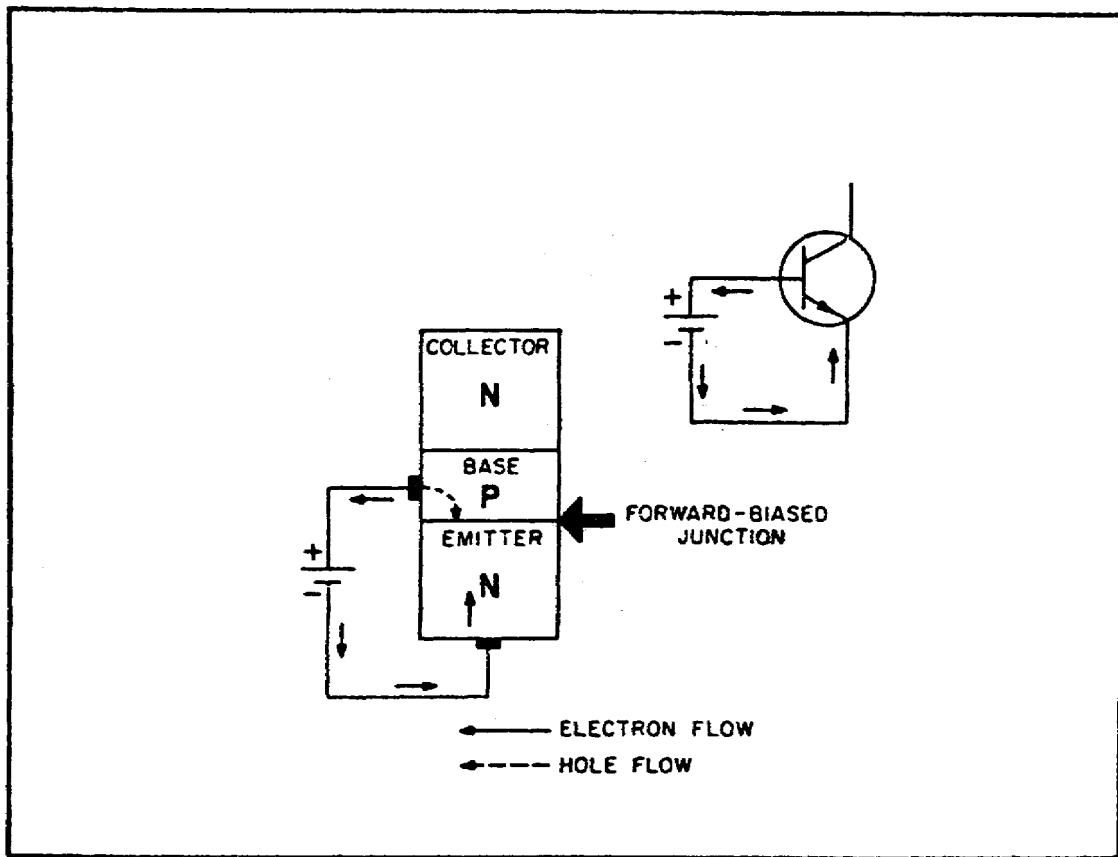

FIGURE 89. FORWARD-BIASED JUNCTION IN AN NPN TRANSISTOR.
(1) *NPN Forward-biased Junction.* An important point to bring out at this time, one which was not mentioned during the explanation of the diode, is that the N material on one side of the forward-biased junction is more heavily doped than the P material. This results in more current being carried across the junction by the majority carrier electrons from the N material than the majority carrier from the material. Therefore, conduction through the forward-biased junction, as shown in figure 89 on the following page, is mainly by majority carrier electrons from the N material (emitter).